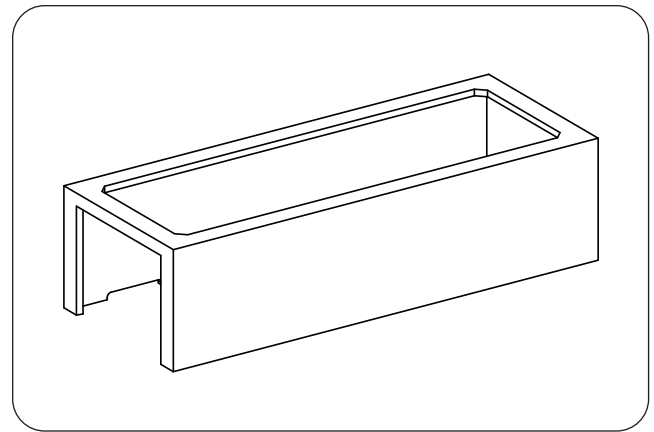

Fig. 20-1 Place hearth
1. **Carefully** place the hearth piece in an appropriate location (refer back to the LOCATION section if needed). See Fig. 20-1.